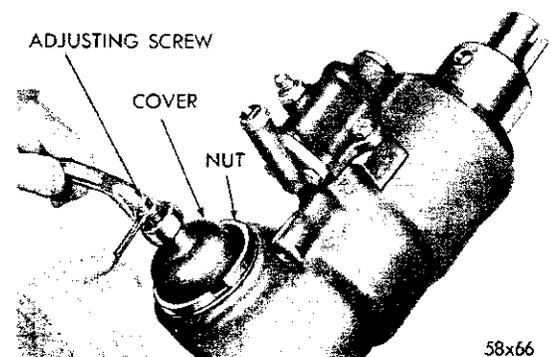

Fig. 46—Steering Gear Shaft Adjustment
(1) Remove the oil reservoir cover and fill the reservoir to the bottom of the filler neck opening.
(2) Connect the test hoses, Tool C-3211 and Tool C-3318, with the proper adapters to the hydraulic pump on the vehicle with pressure gauge Tool C-3309B installed between the pump and the steering gear to register the pressures.
(3) Start the engine and operate at idle to bring the steering gear to normal operating temperature.
(4) Expel all the air from the unit by turning the worm shaft several times to the right and then to the left.
(5) Refill the reservoir before proceeding with the following test and adjustments on the bench:
b. With the gear shaft on center, tighten the gear shaft adjusting screw until the backlash just disappears. Tighten 1¼ turns from this position and while holding the adjusting screw in this position, tighten the lock nut (Fig. 46).